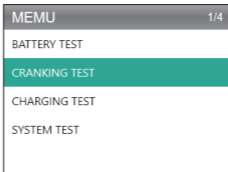

Figure 4.3.1
1. Select "Cranking Test" and press [OK]. (See Figure 4.3.1)